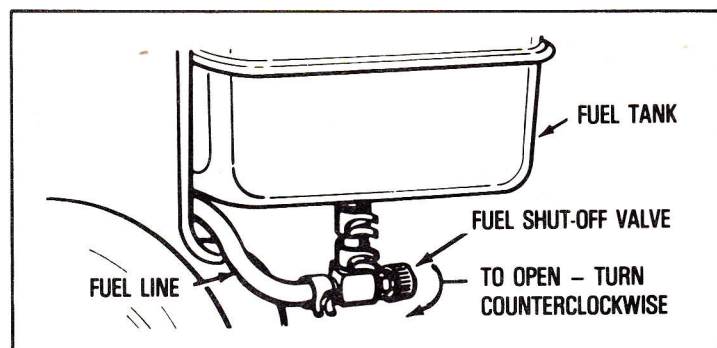

Figure 3
E. Be sure FUEL SHUT-OFF VALVE is open (see Figure 3 and 4).
D. Close FUEL SHUT-OFF VALVE (see Figure 3 and 4).